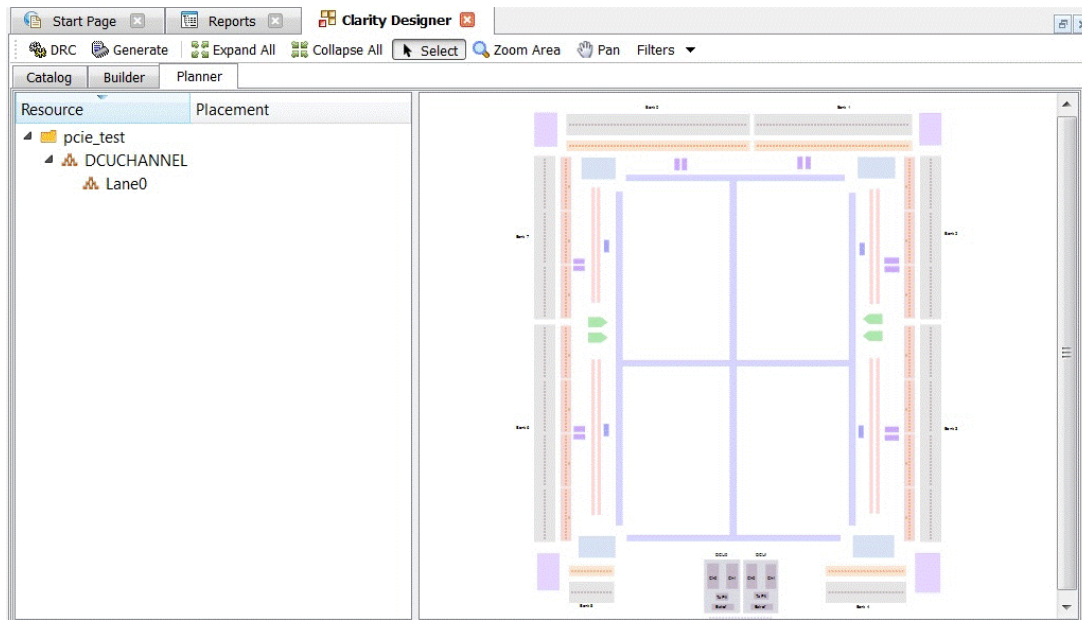

Figure 4.7. PCI Express Endpoint IP Core Clarity Designer GUI
1. After specifying the appropriate settings, click the **Configure** button and then **Close** button at the bottom of the IP core configuration GUI. At this point the data files specifying the configuration of this IP core instance are created in the user's project directory. An entry for this IP core instance is also included in the Planner tab of the Clarity Designer GUI, as shown in Figure 4.7.